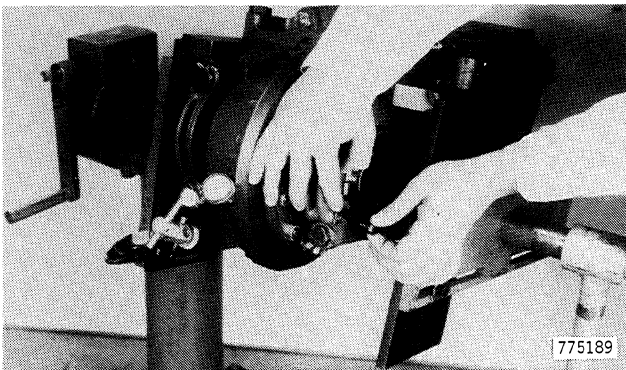

Figure 207
- 56. Install adjusting nut retaining clip, Figure 207. Tighten cap screw and bend tab against head.